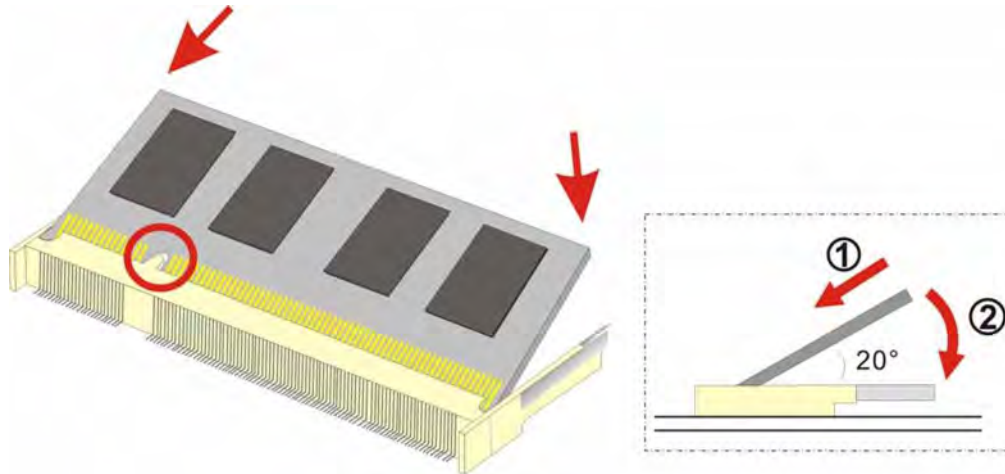

Figure 5-1: SODIMM Installation
To install a SODIMM into a SODIMM socket, please follow the steps below and refer Figure 5-1.
- Step 3: Insert the SODIMM.** Push the SODIMM chip into the socket at an angle. (See **Figure 5-1**)
- Step 4: Open the SODIMM socket arms.** Gently pull the arms of the SODIMM socket out and push the rear of the SODIMM down. (See **Figure 5-1**)